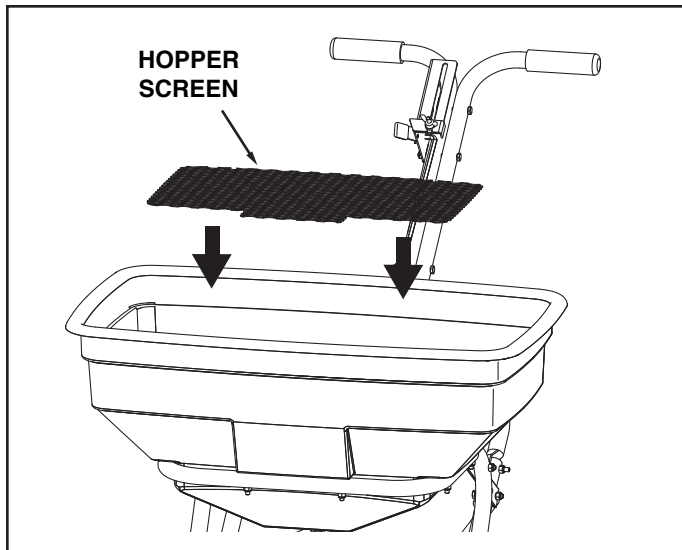

FIGURE 12
- Place the hopper screen down into the hopper, sliding the ends into the clips in the hopper. The screen helps break up clumpy material and prevents large clumps from reaching the bottom of the hopper and clogging the opening. See figure 12.